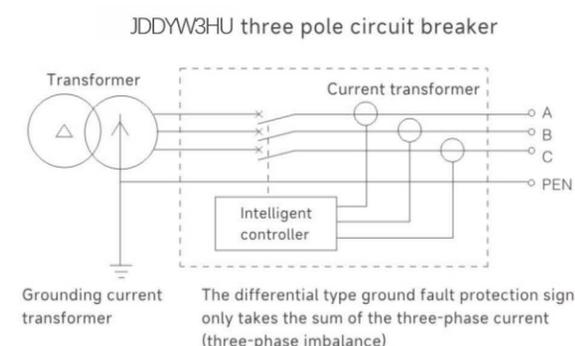
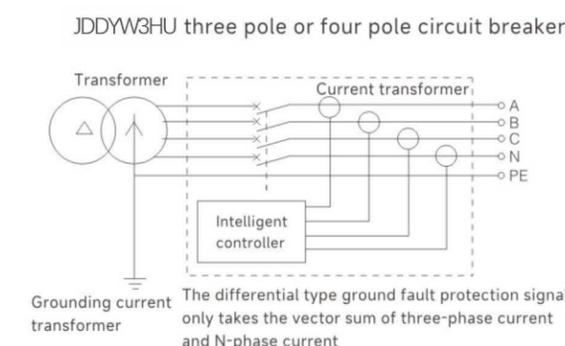
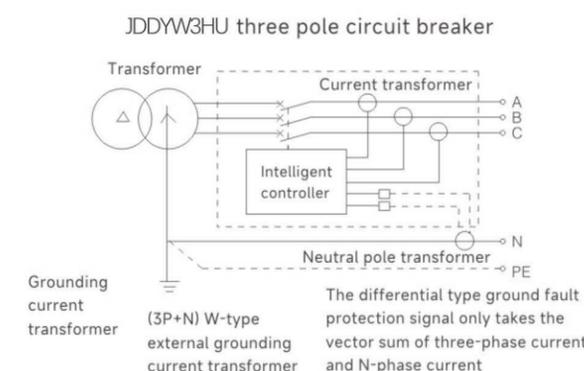

Figure 3 3PT grounding difference type
Figure 4 4PT grounding difference type
Figure 5 (3P+N) T grounding difference type
Single-phase grounding leakage protection refers to metal grounding protection with a fault current of several hundred amperes or more, generally used in neutral directly grounded systems. The controller has two different protection methods, one is the difference type (T). The controller provides protection based on the vector sum of three-phase current and neutral pole current, which can be divided into three forms: 3PT, 4PT, and (3P+N), as shown in Figure 3, Figure 4, and Figure 5. The other type is the ground current type (W), where the controller directly takes an additional current transformer output current signal between the neutral point of the main power supply and the ground for protection. The neutral pole transformer or current transformer is added between the N-line and P-level of the inductor.